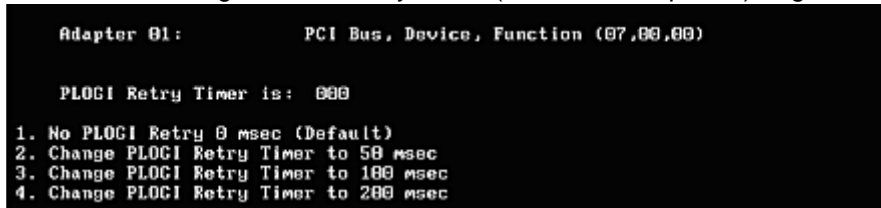

Figure 11: Change the PLOGI Retry Timer screen
2. Select **<3>**, Change PLOGI Retry Timer (+Advanced Option+). Figure 11 is displayed.